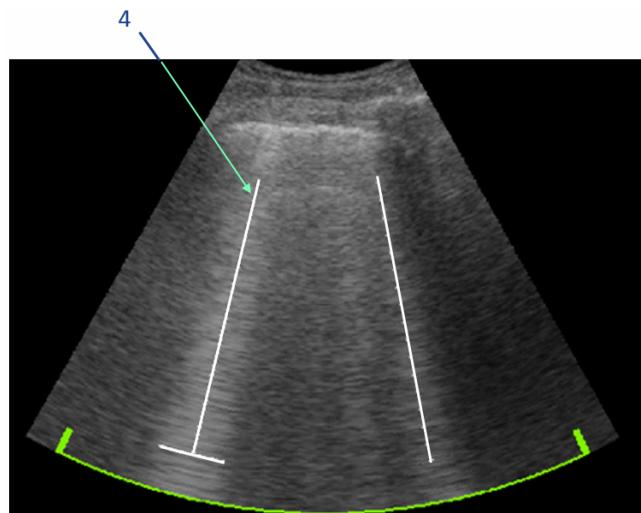

Figure 7-30. Marks over a fused B-line
In case B-lines appear wide and "fused", as often found in the case of lung consolidation, a special graphic horizontal line appears across the joined B-line (Figure 7-30, item 4).